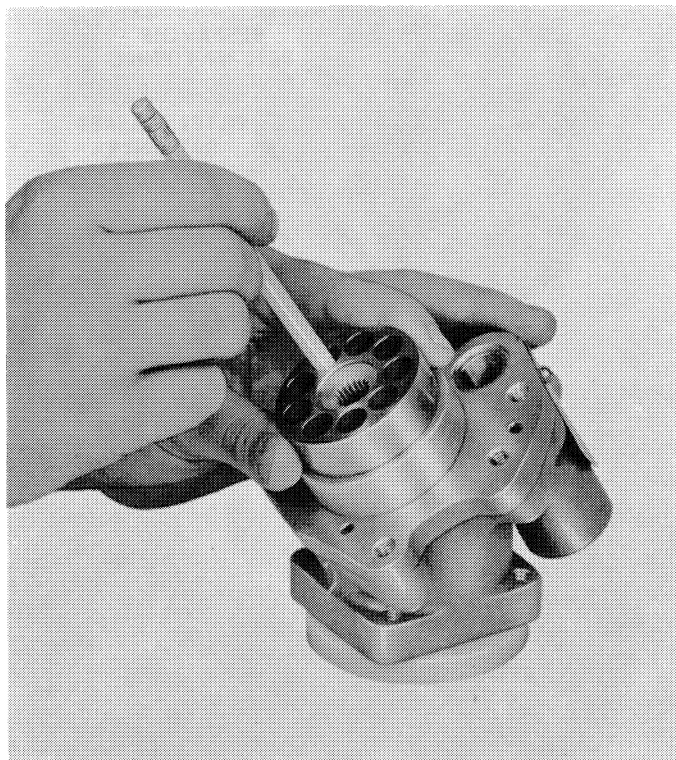

Figure 11—Aligning the Drive Block and Sleeves
6. Position the drive block (with spline) over the sleeves, sighting through the bores in the block for alignment. Using a pointed probe slightly smaller in diameter than the sleeve bores, correct the alignment of the sleeves while guiding the cylinder block downward as shown in Figure 11.